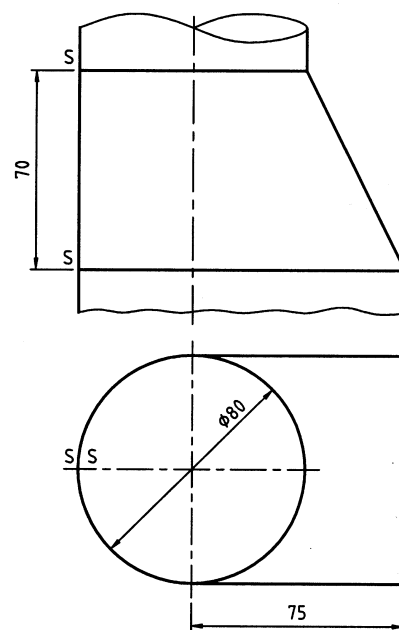

FIG. 4
4. Fig. 4 shows the elevation and plan of a transition piece for part of a ventilation system, which is to be fabricated from thin sheetmetal and welded along the joint SS.